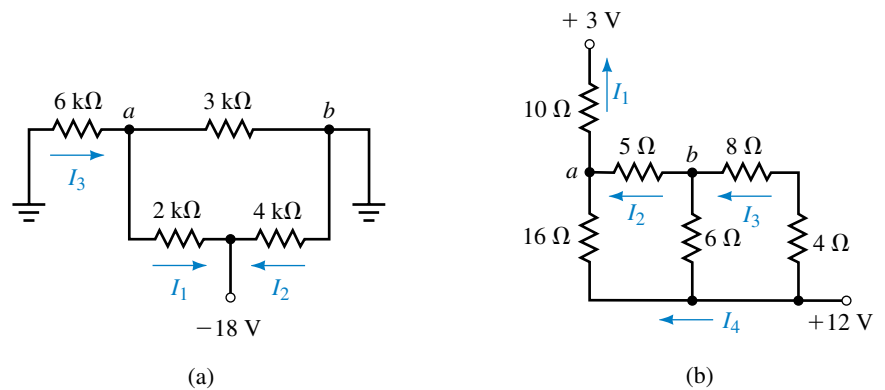

FIGURE 7-58
15. Refer to the circuits of Figure 7-58: